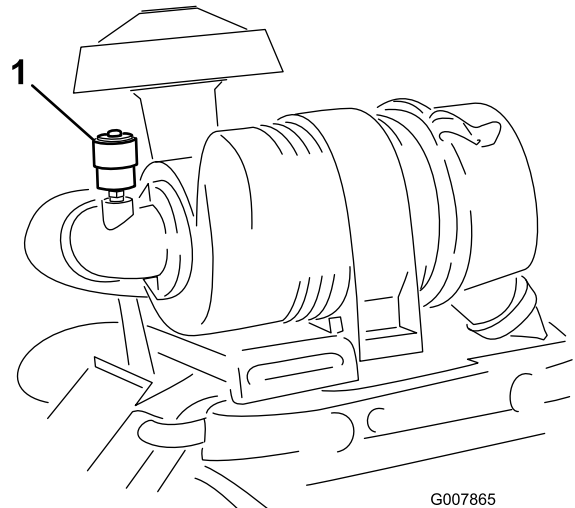

Figure 44
Service the air cleaner filter only when the service indicator (Figure 44) requires it. Changing the air filter before it is necessary only increases the chance of dirt entering the engine when the filter is removed.
6. Reset the indicator (Figure 44) if it shows red.